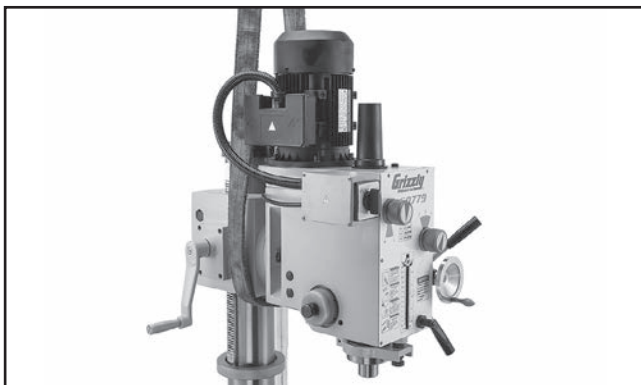

Figure 8. Typical lifting sling position.
3. Place lifting sling around headstock (see **Figure 8**), and attach it securely to forklift (or other power lifting equipment).